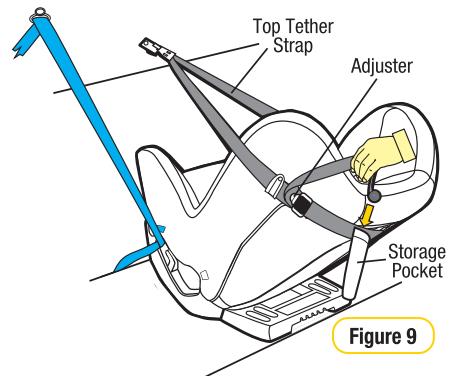

Figure 9
- Step 8:** Store any excess webbing from the top tether strap, in the storage pocket provided on the restraint (refer Figure 9).